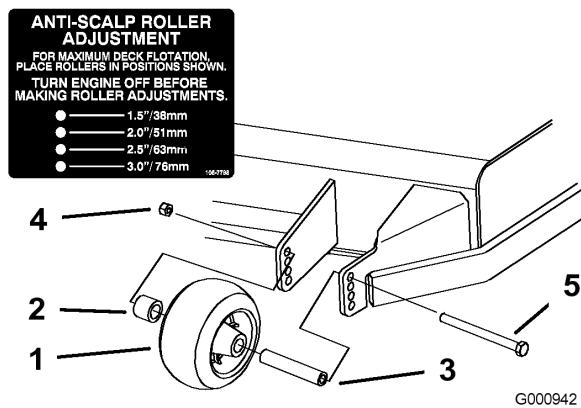
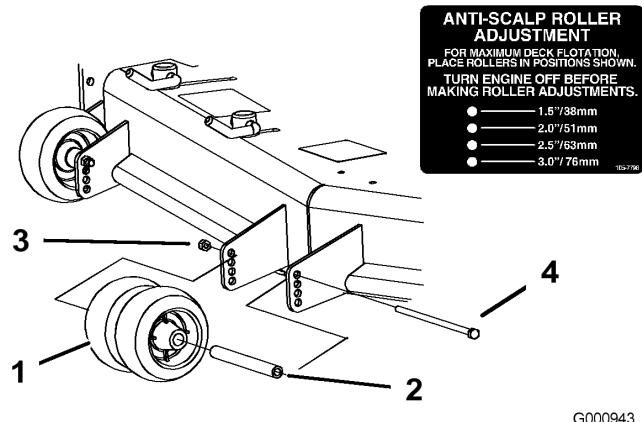
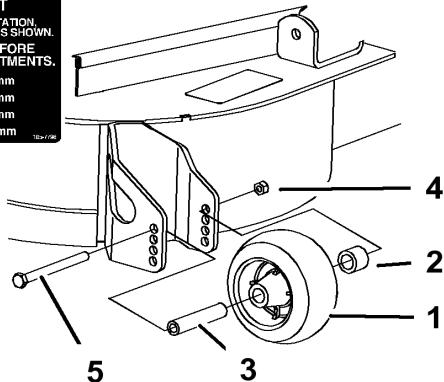

Figure 17
Figure 18
Figure 19
3. After adjusting the height-of-cut, adjust the rollers by removing the flange nut, bushing, spacer, and bolt (Figure 17, Figure 18 and Figure 19).
5. Install the flange nut, bushing, spacer, and bolt. Torque to 40-45 ft-lb (54-61 N•m) (Figure 17, Figure 18 and Figure 19).